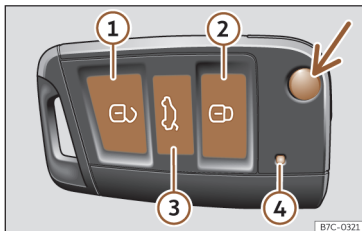

Fig. 42 Vehicle key
To fold and unfold the key blade, press the button >>> Fig. 42 (arrow).
When a button is pressed briefly on the vehicle key, the control lamp (4) >>> Fig. 42 flashes once briefly, but if pressed for a long period of time, it will flash several times, for example, in the convenience opening.